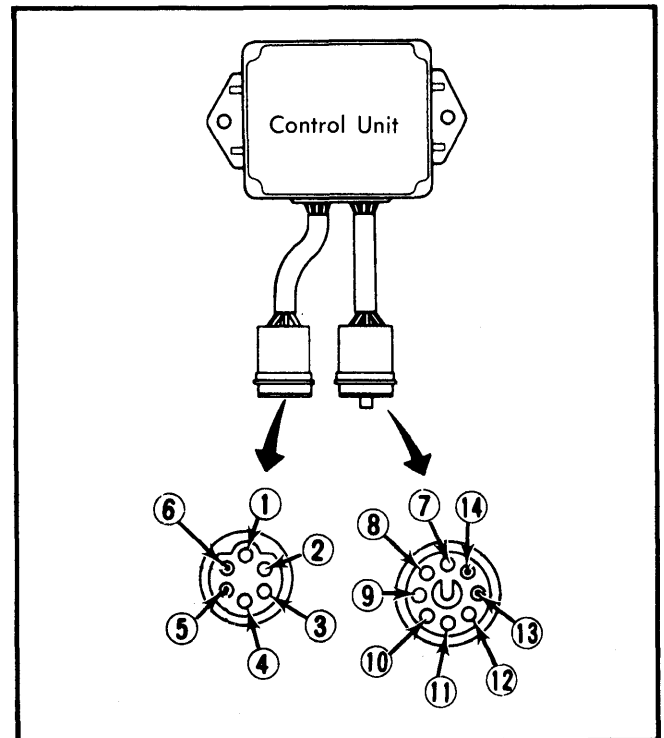

**Fig. 9 Control Lever Positions**
**System Check** — 1) Check control lever position during engine starting and operation. Lever should move smoothly to each position as ignition key position is changed. See Fig. 9.